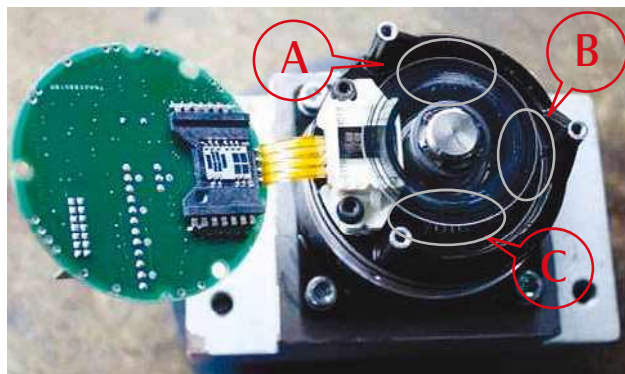

Fig. 7
Step10. If there are scratches on the mirror such as A/B/C of Fig. 7, it means the mirror is damaged. Please contact us and send those pictures for judgment.